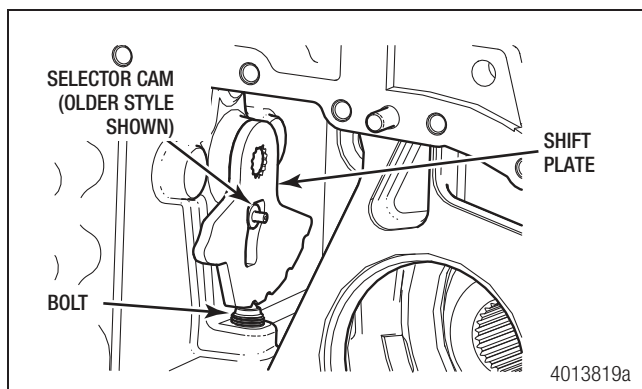

Figure 4.37
2. From the outside of the front case, loosen the shift position bolt. Figure 4.37.